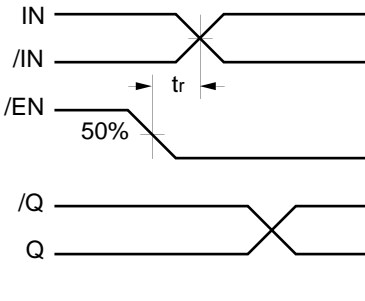

Figure 3. Release Time
- The release time is the minimum time that /EN must be de-asserted prior to the next IN, /IN transition to ensure an output response that meets the specified IN to Q propagation delay and output transition times (see Figure 3).